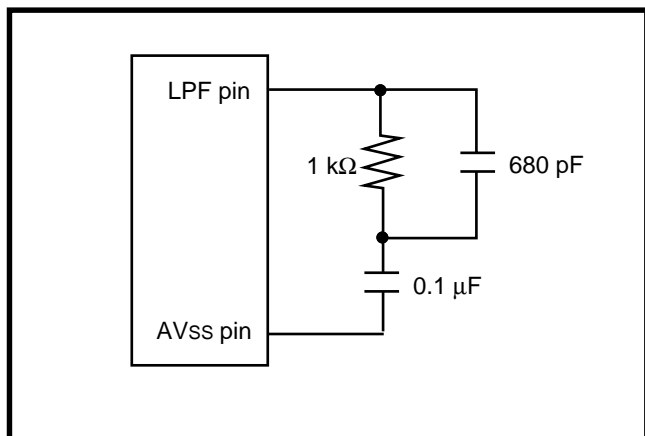

Fig. 3.3.3 Passive components near LPF pin
- All passive components must be located as close as possible to the LPF pin. Figure 3.3.3 shows the passive components near LPF pin